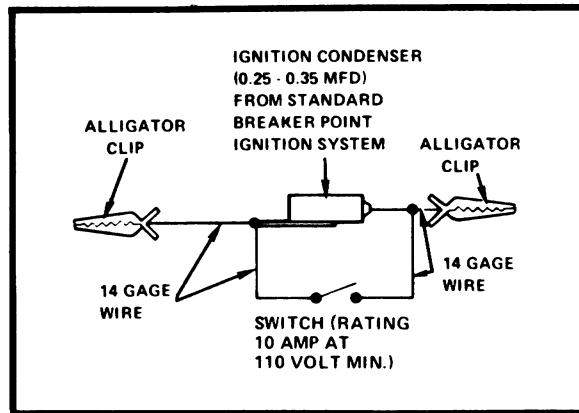

Figure 1 — Ignition Test Jumper
Make up a test jumper as shown in Figure 1 below. It is important to use only this test jumper when making these checks. Solid wire jumpers will not work for the quick checks.
- b. Unplug connector at **TFI Module**. In the harness side of the connector, connect the special test jumper (Figure 1) between ground and the DG/Y lead. Use a straight pin in connector socket hole to make contact.